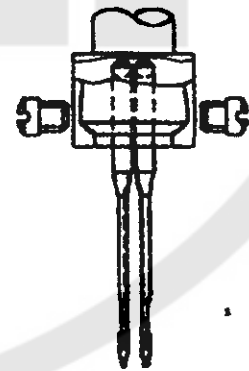

Fig. 1
5、How to Attach Needle (Fig.1):